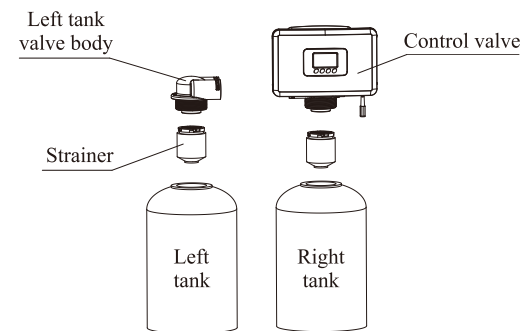

Figure 2
c. As Figure 2 shows, screw the top strainer to the valve and left tank valve body. Then insert the top strainer to control valve and left tank valve body, screw the control valve and left tank valve body tightly on the tank.